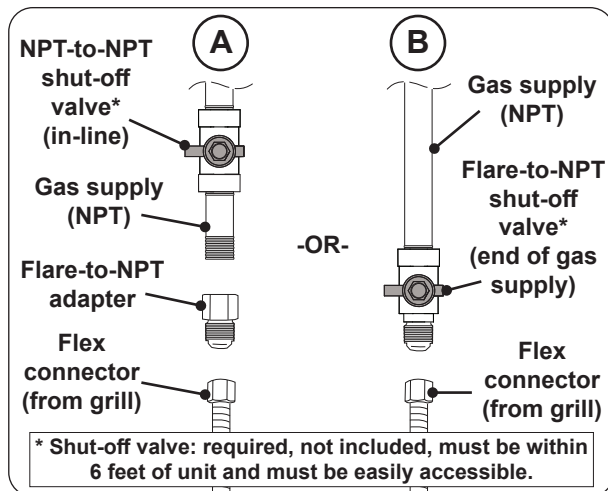

Fig. 24-1 Connecting to a gas line
- Install the supplied flare-to-NPT adapter to the gas supply (NPT) using a pipe joint compound resistant to all gasses (see Fig. 24-1, A). Tighten securely.
- Connect the flex connector to the adapter (see Fig. 24-1, A). Tighten securely.
- Connect the flex connector to the shut-off valve (flare) (see Fig. 24-1, B). Tighten securely.